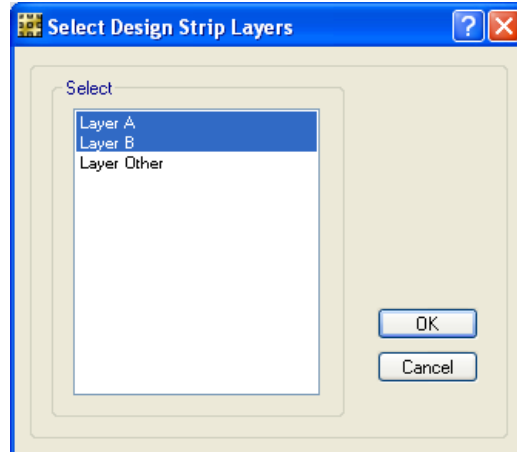

Figure 78 Select Design Strip Layers form
- L. Click the **Select menu > Select > Properties > Design Strip Layers** command to display the Select Design Strip Layers form shown in Figure 78.